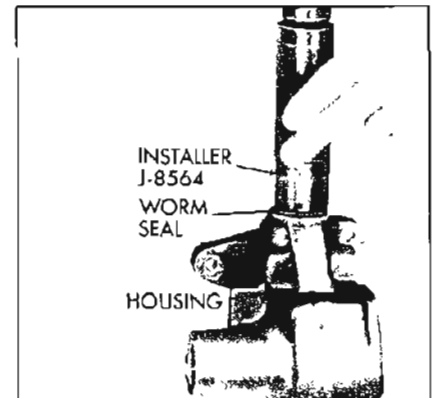

Figure 8-16—Installing Worm Shaft Seal
NOTE: It is not necessary to disassemble gear to replace worm seal. Remove worm seal with awl being careful not to damage housing or shaft and install a new seal with Installer J-8564. See Figure 8-16.
9. Install new worm shaft seal using Installer J-8564. See Figure 8-16. Drive seal flush with surface of housing.